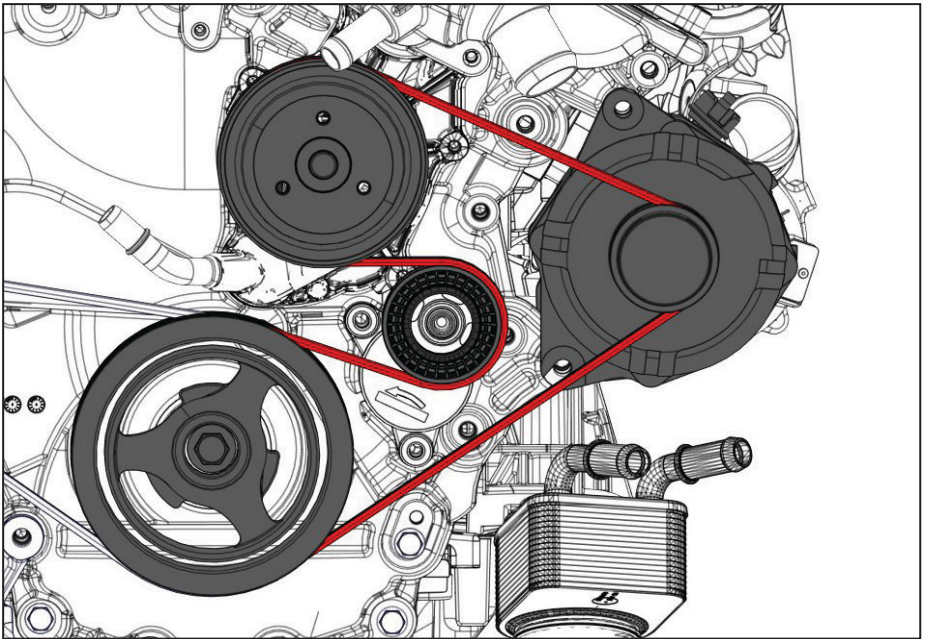

Figure 18 — 6 rib belt routing
- Reinstall and tension the OEM 6 rib belt (Figure 18).